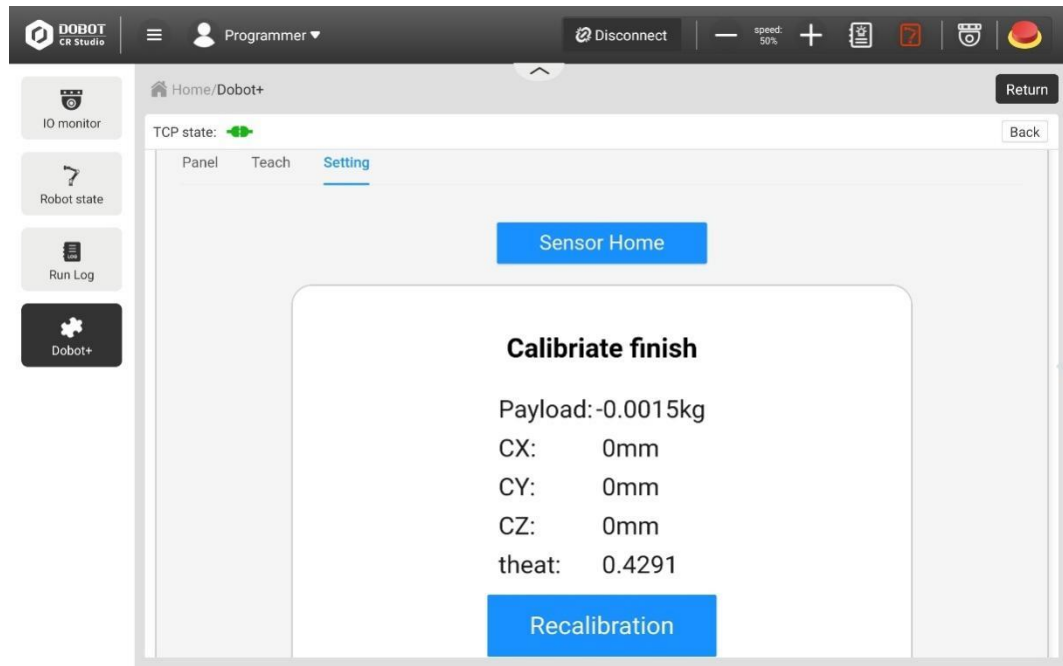

Figure 4.7 Calibration is finished
Step 7 After the X, Y and Z axes are calibrated, the screen displays “Calibrate finish”, as shown in Figure 4.7.